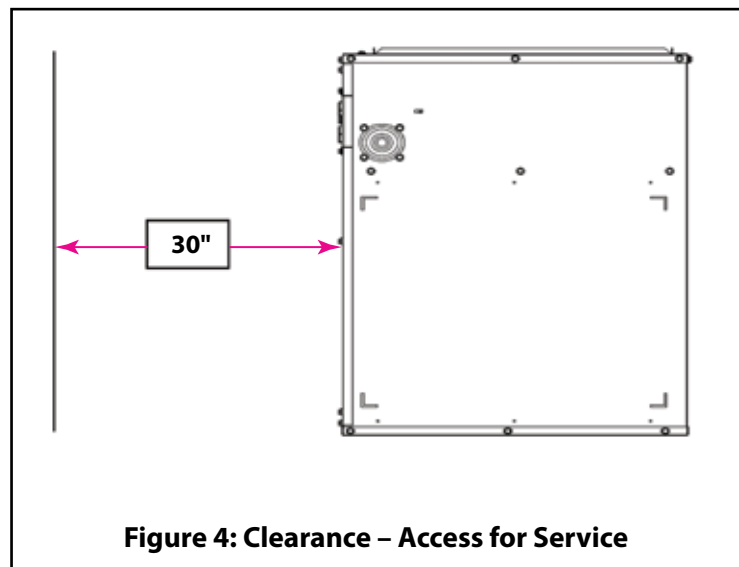

Figure 4: Clearance – Access for Service
This air handler is approved for zero (0) inches clearance to combustible material on any part of the air handler exterior casing. Refer to Table 7 and Figures 4 and 5 for clearance to combustibles and for service access clearances.